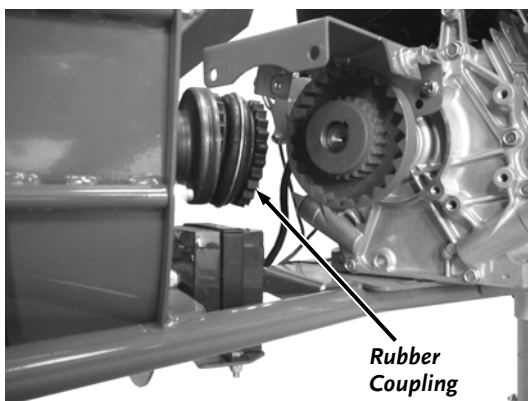

Figure 51
6. Carefully slide the Engine away from the Coupling until the Rubber Coupling can be removed from the machine (**Figure 51**).